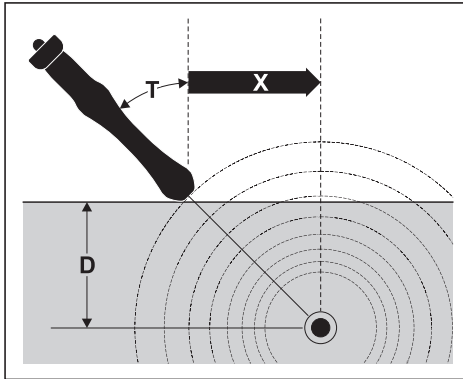

Fig. 18: Determining the offset depth
4. Tilt the receiver to an angle T of between $10^\circ - 60^\circ$ (Fig. 18).